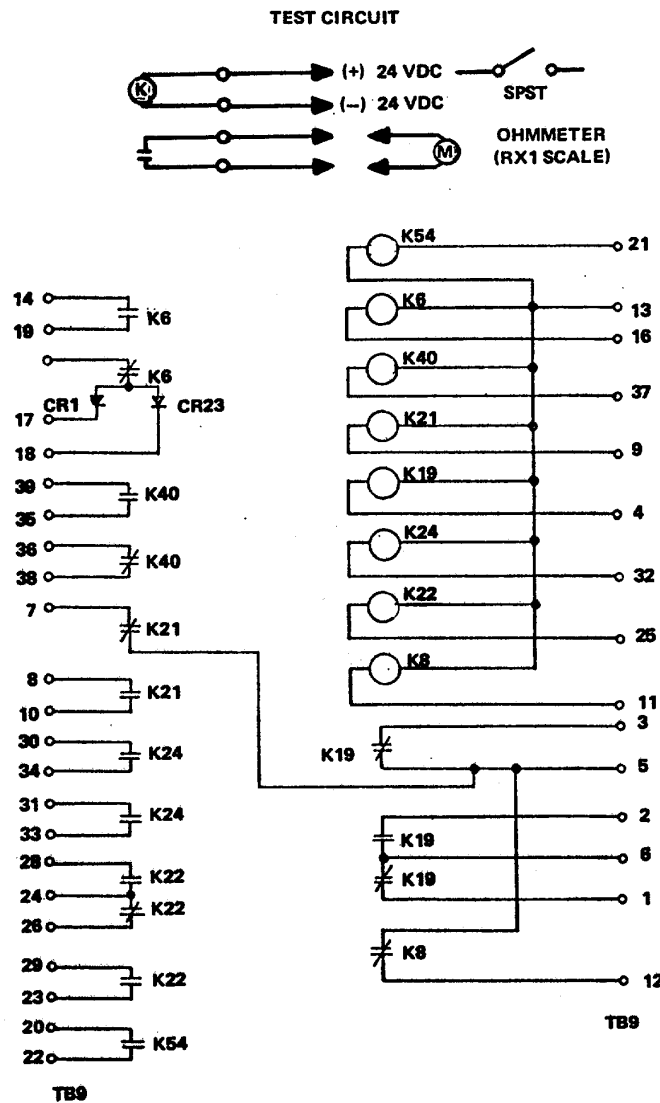

Figure 4-12. AC-DC Control Relay Assembly, Test Setup
- (1) Check each relay using test circuits shown in figure 4-12. Energize each set of relay contacts individually by applying 24V DC directly to leads. Check for open or closed contacts (no continuity or continuity) as indicated in figure 4-12. Check that each set of contacts revert (to either closed or